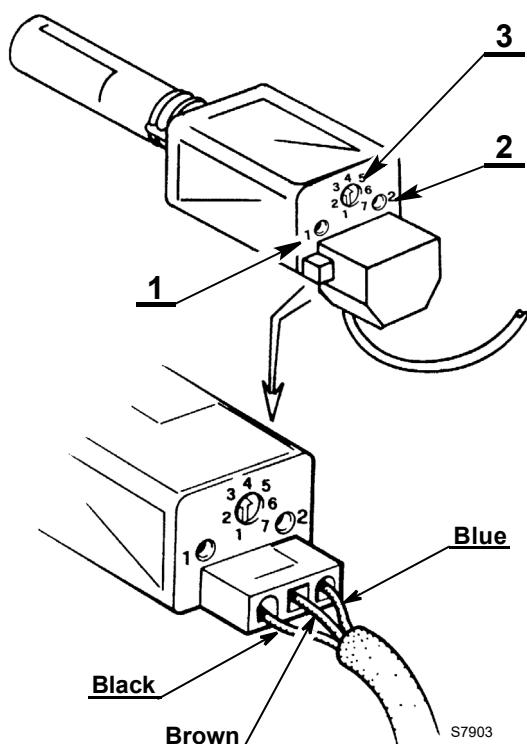

Fig. 14
- a potentiometer 3)(Fig. 14) for adjusting the sensitivity.
- Led 1)(Fig. 14) indicates the sensitivity.
- Led 2)(Fig. 14) indicates its operation.
- turn the indicator of the potentiometer 3)(Fig. 14) anticlockwise until the LED 1)(Fig. 14) blinks, thereby defining the minimum value of the notch.
- Turn the indicator of the potentiometer 3)(Fig. 14) clockwise until the LED 1)(Fig. 14) is on and fixed.